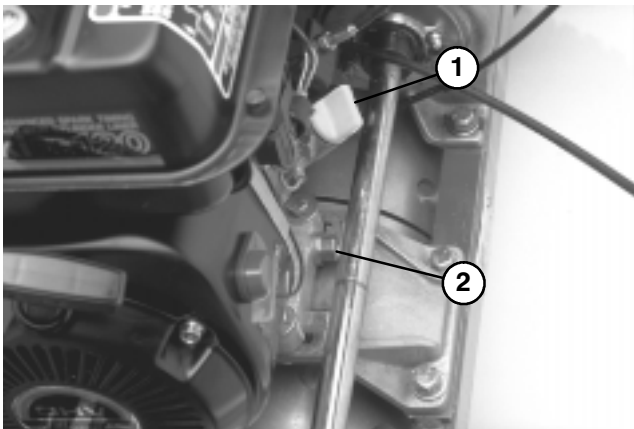

Figure 27
1. Position mower so the engine is level and clean around oil level gauge (Fig. 27).
2. Place a drain pan at rear of machine under drain plug (Fig. 27). Remove drain plug.